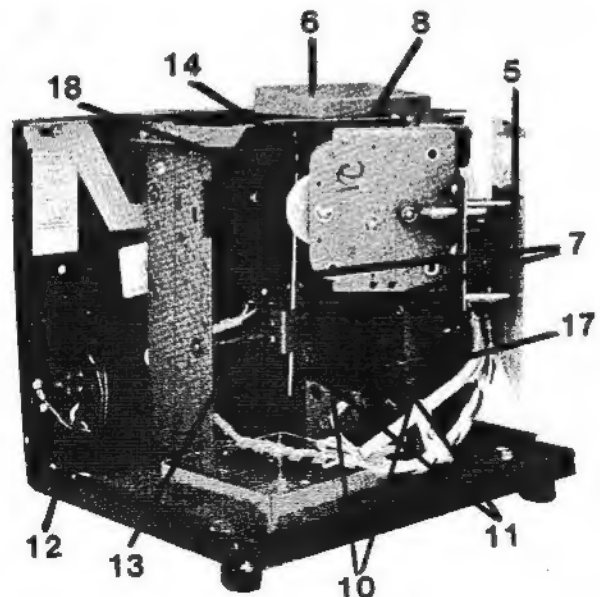
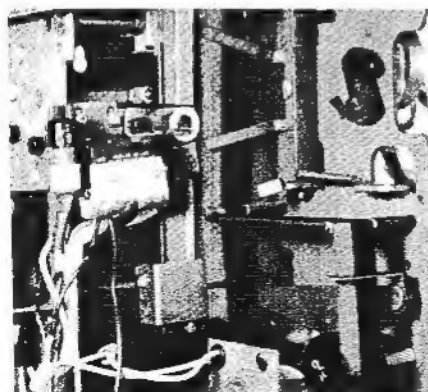

Figure 2
Figure 5
3. Push the Type Wheel Overthrow Lever (8, Fig. 2) down until it locks.
8. Rotate the Face Setting Wheel (5, Fig. 2) to advance hands on the clock face so that they coincide with the time on the type wheels.
4. Rotate Face Setting Wheel (5, Fig. 2) to advance minute hand to 00 minutes.
4. Remove and retain cotter pins at ends of Ribbon Spindles (11, Fig. 2). Remove and discard ribbon.
6. Thread ribbon as in Figure 5. Ribbon reversing grommets must be under Ribbon Reversing Fingers (10, Fig. 2).